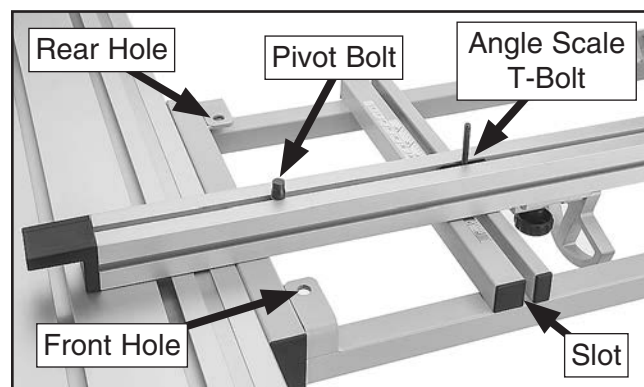

Figure 94. Crosscut fence pivot bolt.
3. Lift fence and loosen pivot bolt (see **Figure 94**).
4. Re-insert pivot bolt into front or rear hole, and re-insert angle scale T-bolt into angle scale slot (see **Figure 94**).
5. Without disturbing pivot bolt position, lift fence up (see **Figure 94**), tighten pivot bolt, then re-insert pivot bolt into hole.